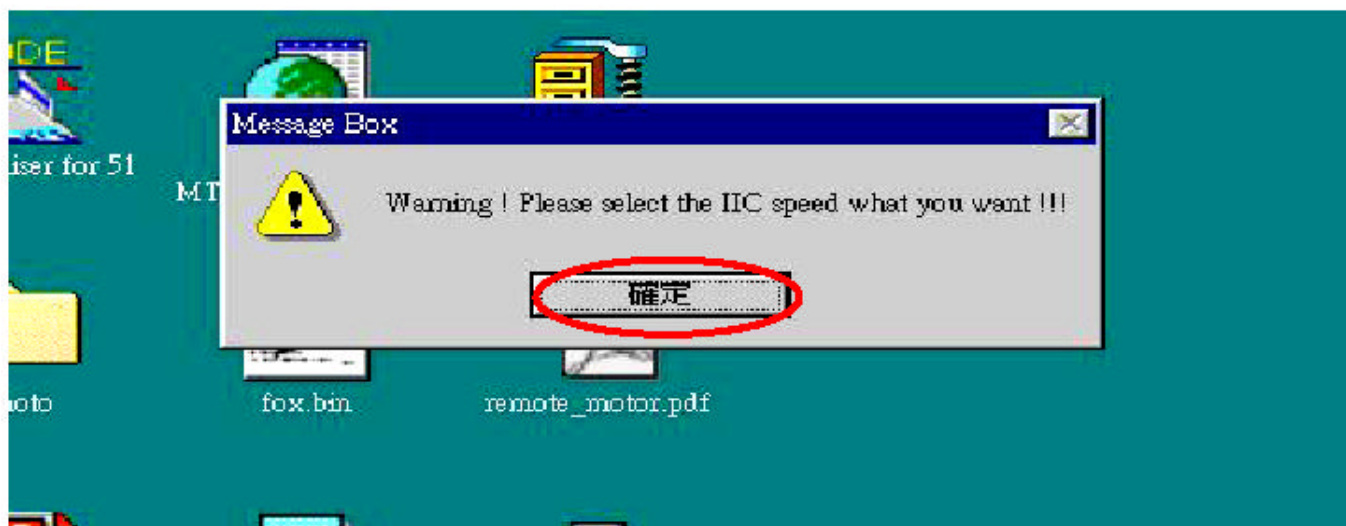

Fig 3.3
3.3 The warning is used to remind user of that different CPU rate may cause ISP function fail(it is limited by IIC protocol), press “ 確定 ” button, see Fig 3.3.